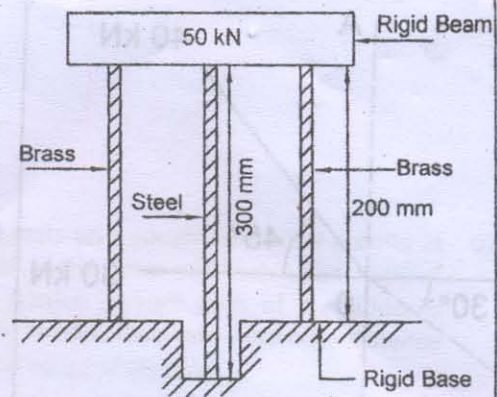

Fig. 9
- Que. 5.b Two brass rods each 10mm diameter and one steel rod of 16mm diameter together support a load of 50 kN as shown in Fig.9. Find stresses in each rods. Take  $E_s = 2 \times 10^5 \text{ N/mm}^2$ ,  $E_b = 1 \times 10^5 \text{ N/mm}^2$ . 04